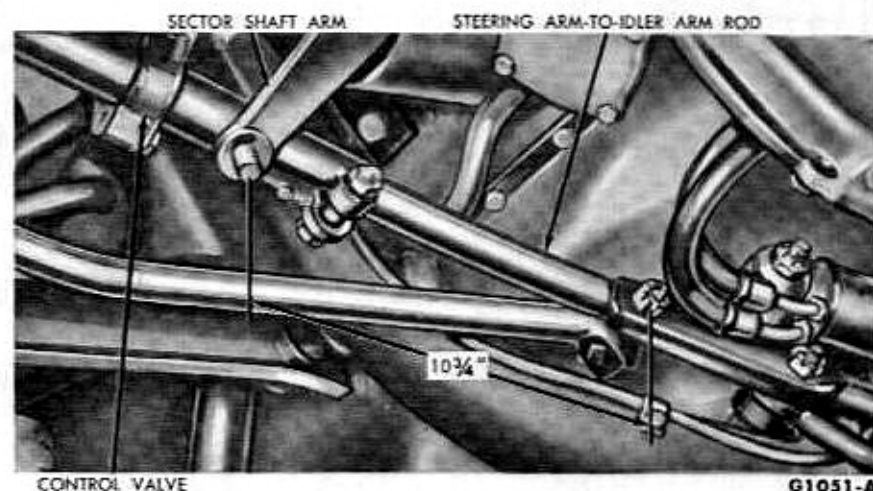

FIG. 17—Valve Installation Measurement
3. Measure the distance between the center of the ball stud in the sector shaft arm and the center of the stud at the inner end of the left-hand spindle connecting rod (Fig. 17). Be sure that the measurement is taken parallel to the centerline of the control valve. The distance should be 10 $\frac{3}{4}$ inches. If the distance is not correct, disconnect the ball stud from the sector shaft arm and turn the valve on the steering arm to idler arm rod to increase or decrease the distance.
3. Measure the distance between the center of the ball stud in the sector shaft arm and the center of the stud at the inner end of the left-hand spindle connecting rod (Fig. 17). **Be sure that the measurement is taken parallel to the centerline of the control valve.** The distance should be $10\frac{3}{4}$ inches. If the distance is not correct, disconnect the steering arm to idler arm rod from the idler arm and the spindle connecting rod. Then turn the steering arm to idler arm in the control valve to increase or decrease the distance.